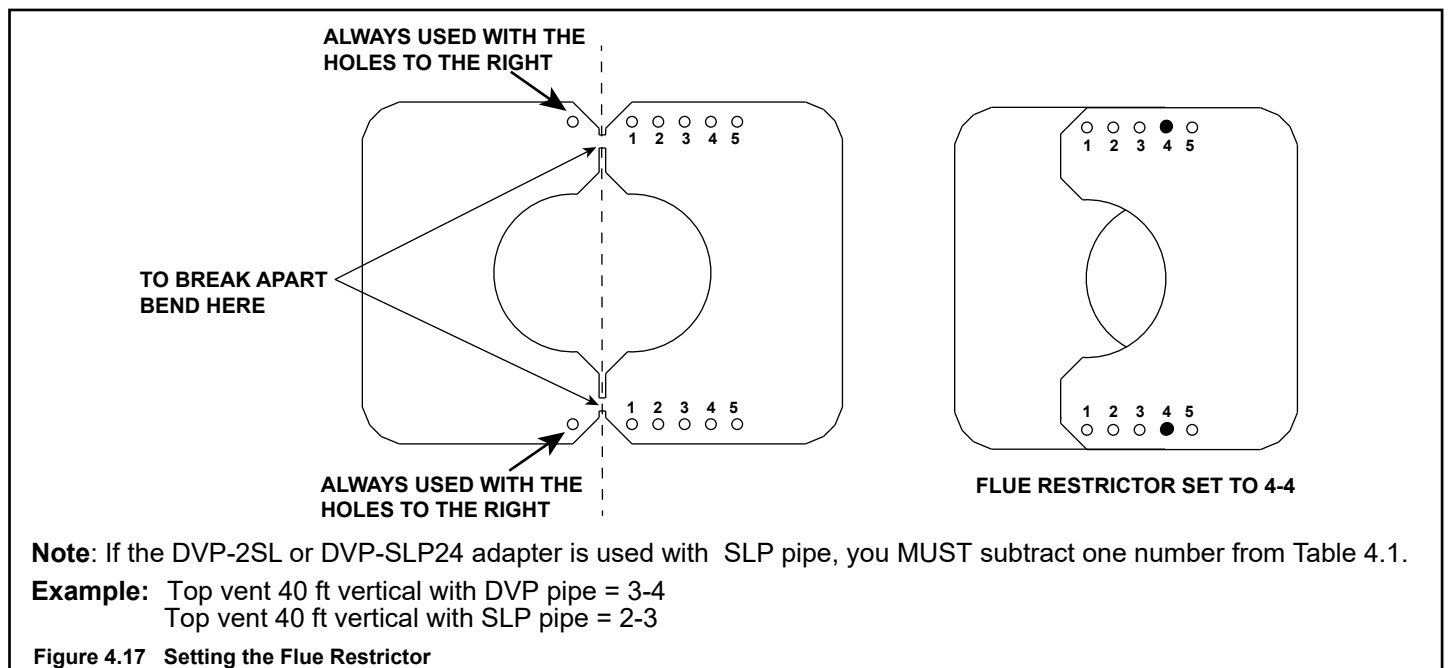

Figure 4.17 Setting the Flue Restrictor
2. Orientate and align the two pieces of the flue restrictor as shown in Figure 4.17.
3. Refer to Table 4.1 and Figure 4.17 to match the amount of vertical you have in the system and determine the appropriate position to set the flue restrictor. In Table 4.1, "NA" indicates that a flue restrictor is not used.